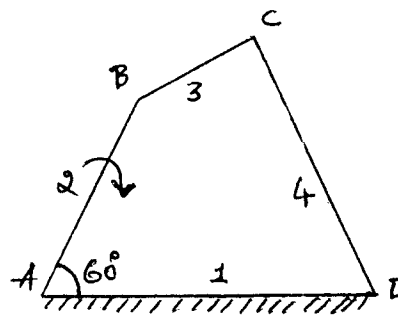

Fig.Q4
- 4 A pin jointed four bar mechanism ABCD is shown in Fig.Q4. Link  $AB = 150 \text{ mm}$ ,  $BC = 180 \text{ mm}$ ,  $CD = 180 \text{ mm}$  and the fixed link  $AD = 300 \text{ mm}$ . Link AB makes  $60^\circ$  with the link AD, and rotates uniformly at 100 rpm. Locate all the instantaneous centres and find the angular velocity of link BC and the linear velocity of link CD. (16 Marks)